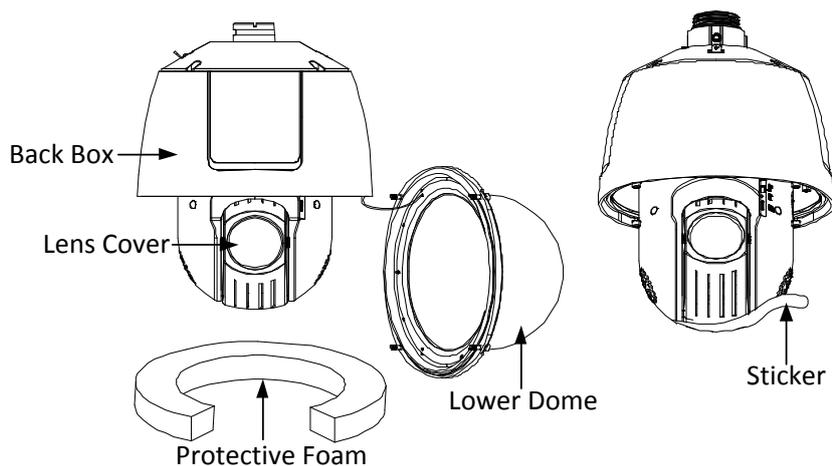
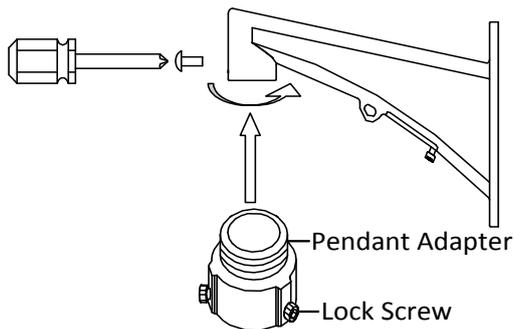

Figure 3-13 Remove the Protective Elements
Figure 3-24 Pendant Adapter
- The bracket in Figure 3-13 is the recommended bracket for this series of speed dome, and a pendant adapter is required if any other bracket is selected. See Figure 3-24.